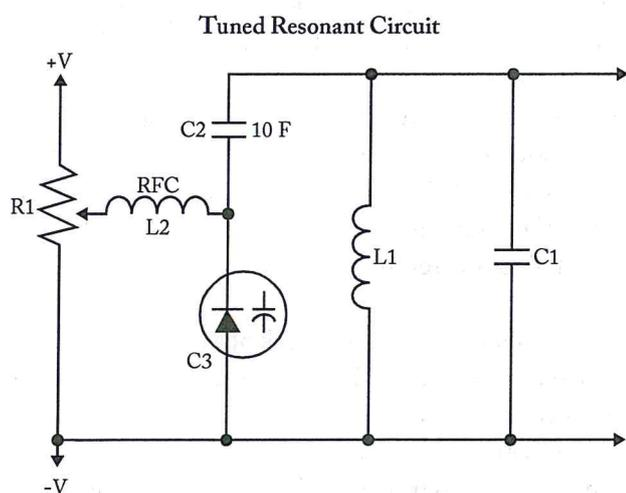

Figure 1-39. Varactor tuned resonant circuit.
of more sophisticated communication equipment and in other circuits where variable capacitance is required. One advantage of the varactor is that it allows a DC voltage to be used to tune a circuit for simple remote control or automatic tuning functions. One such application of the varactor is as a variable tuning capacitor in a receiver or transmitter tank circuit like that shown in *Figure 1-39*.
*Figure 1-39* shows a DC voltage felt at the wiper of potentiometer R1 which can be adjusted between +V and -V. The DC voltage, passed through the low resistance of radio frequency choke L2, acts to reverse bias varactor diode C3. The capacitance of C3 is in series with C2, and the equivalent capacitance of C2 and C3 is in parallel with tank circuit L1 and C1. Therefore, any variation in the DC voltage at R1 will vary both the capacitance of C3 and the resonant frequency of the tank circuit. The radio-frequency choke provides high inductive reactance at the tank frequency to prevent tank loading by R1. C2 acts to block DC from the tank, as well as to fix the tuning range of C3.